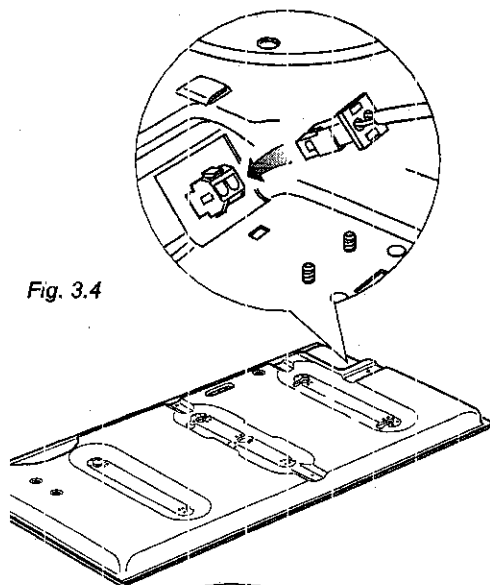

Fig. 3.4
- ✓ Connect the battery cable plug to the socket as indicated in figure 3.4.